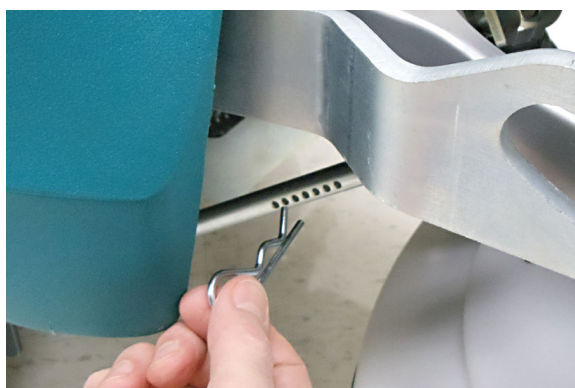

FIG. 10
5. To increase down pressure, move the cotter pin to the next hole towards the motor. To decrease the down pressure move the cotter pin in opposite direction (Figure 10).